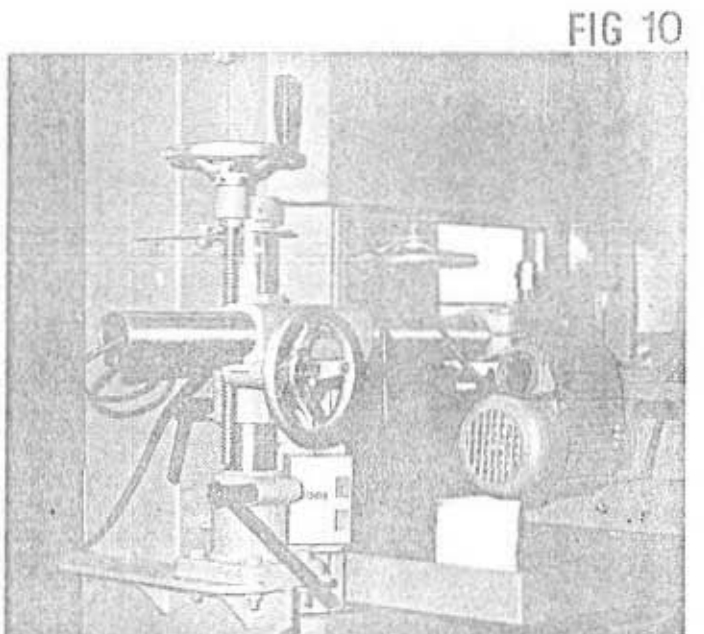

FIG 10
- FIG.10. Feed Unit Locks And Adjustment